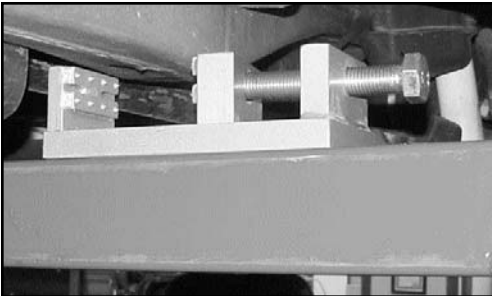

Figure 2
3. Position rail vise on top of the crossbar directly below the boxed rail. (See Figure 2.) If extra height is needed, position appropriate size spacer (or 3 inch riser bar) between crossbar and rail vise. If using the 3 inch riser bar, insert tie back bracket between rail vise and top of riser bar. (See **Special Pulling Situations** — page 2.)